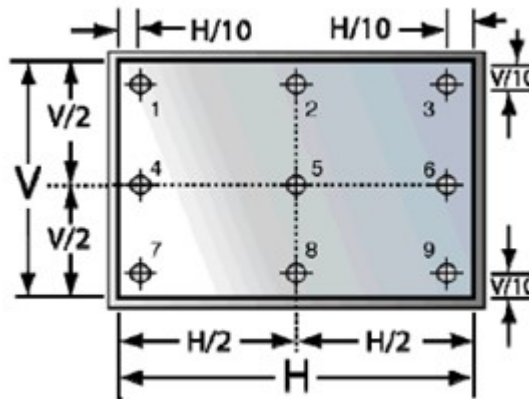

Figure 16: Luminance & Uniformity Measurement Locations
2. Surface luminance is on the surface with all pixels displaying white and the average values of 9 points measurement will be the the luminance value. This measurement shall be taken at the locations shown in FIG.16.
3. Uniformity measurement shall be taken at the locations shown in FIG. 16, for a total of the measurements per display, measure surface luminance of these nine points across the LCD surface 50cm from the surface with all pixels displaying white.